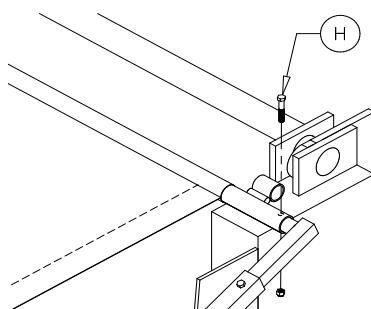

Figure 15
Using a 5/16" drill bit, drill through the pivot arm crossmember (F) and top pivot arm (G). Secure the pivot arm crossmember to the top pivot arms with the 5/16"x2-1/2" hex bolts (H) and 5/16" nylon lock nuts provided (see Figure 15).